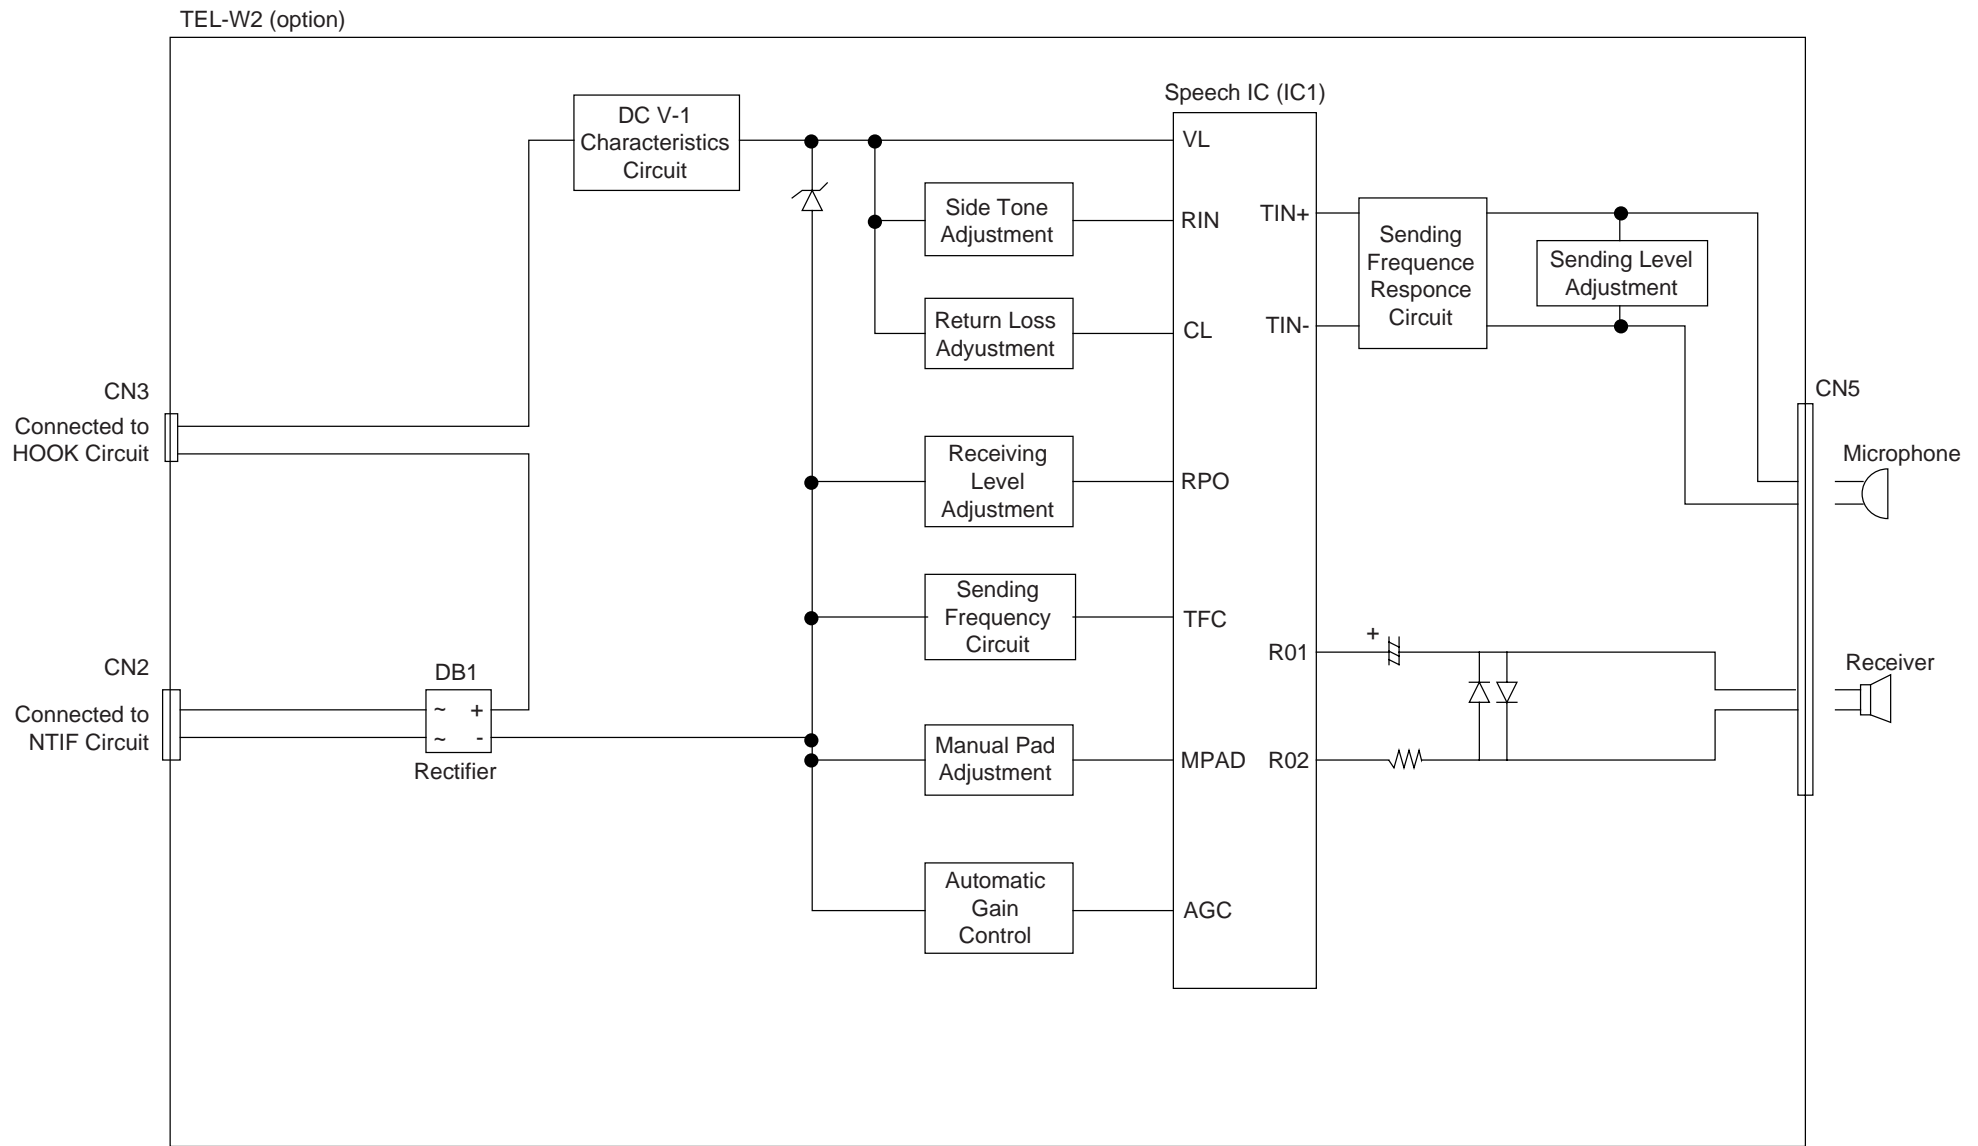

Figure A3.5.2 Block Diagram of TEL-W2 (option)
- Figure A3.5.2 shows a block diagram of TEL-W2 circuit.